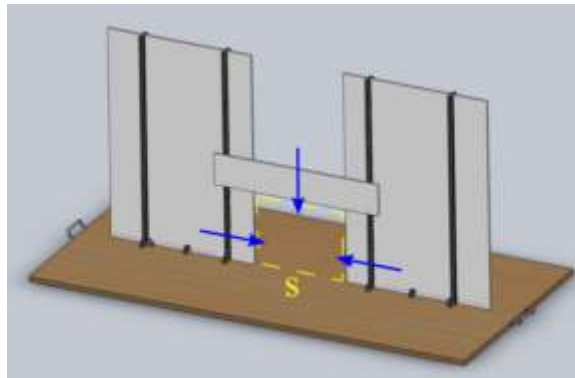

FIGURE 6: WALL TILE. BY MOVING THE PANELS, THE APERTURE WILL BE REDUCED TO MATCH ROBOT DIMENSIONS.
- Task 2: The wall tile is made of three rigid PVC elements which can be moved to reduce the aperture dimensions, see Figure 6. Approximately, the aperture will be a square of side s , where s should be decided by teams as follow.